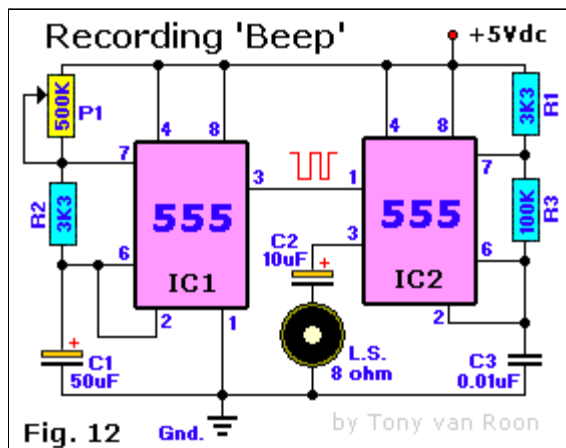

Fig. 12
12. Next you will experiment with astable circuits. First, rewire the circuit so it appears as shown in Fig. 12.
17. Rewire the circuit making R1 and R2 10,000 ohms (10K) and C equal to 0.1μF. Use the same circuit in Fig. 12. But, replace the LED and its resistor with a speaker and capacitor as shown in Fig. 13.
Fig. 12, Recording Beep: This circuit is used to keep recording of telephone conversations legal. As you may know, doing otherwise without consent of the other party is illegal. The output of IC1 is fed to the 2nd 555's pin 3 and made audible via C2 and the speaker. Any 8-ohm speaker will do.